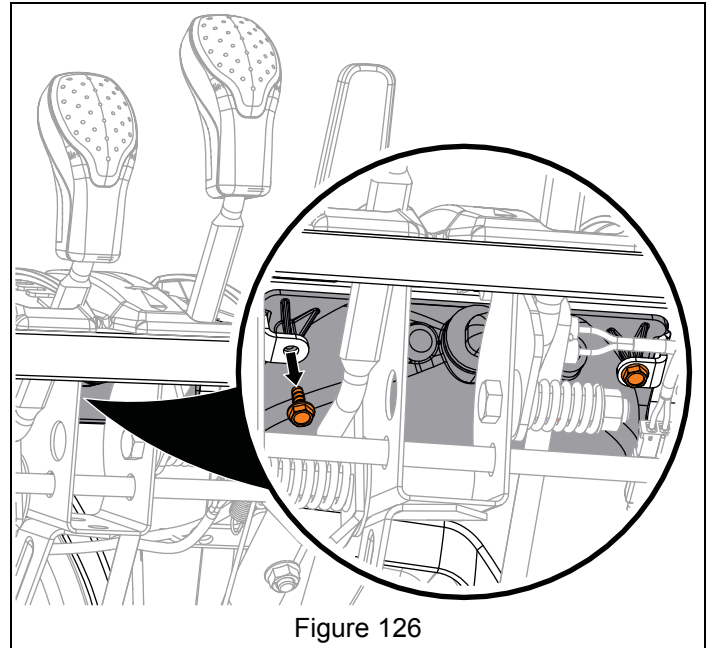

Figure 126
3. Remove hardware securing scraper blade ends to auger housing. See Figure 126.